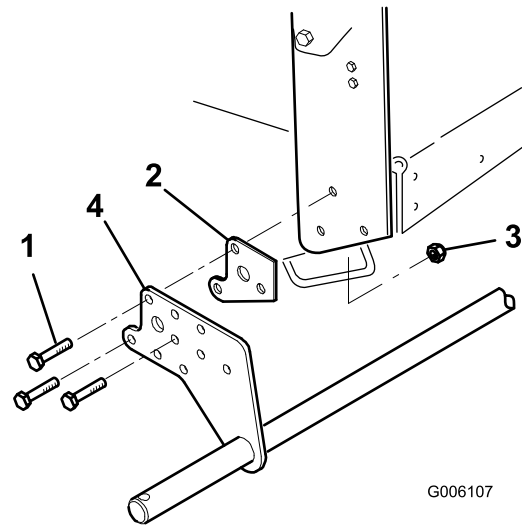

Figure 7
2. Position the axle mounting brackets on both sides of the machine frame (Figure 7).
3. Insert the large spacers between the axle mounting brackets and the frame, lining up the holes (Figure 7).
4. Using the 6 bolts (3/8 x 1-3/4 inches) and locknuts (3/8 inch) supplied with the sulky, install the axle as illustrated in Figure 7.